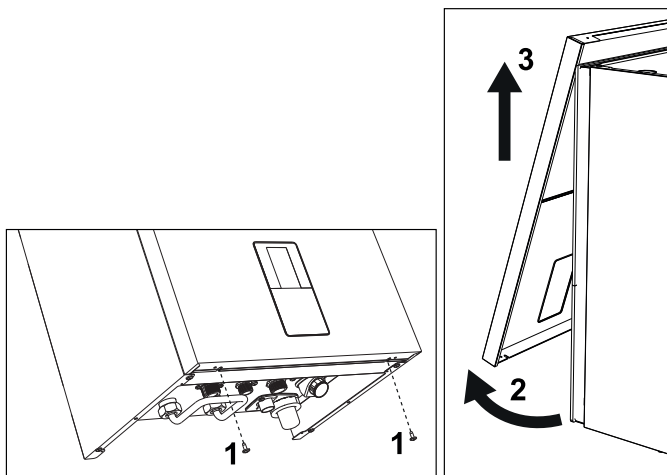

fig. 55- Front panel opening
1. Undo the screws "1" (see fig. 55).